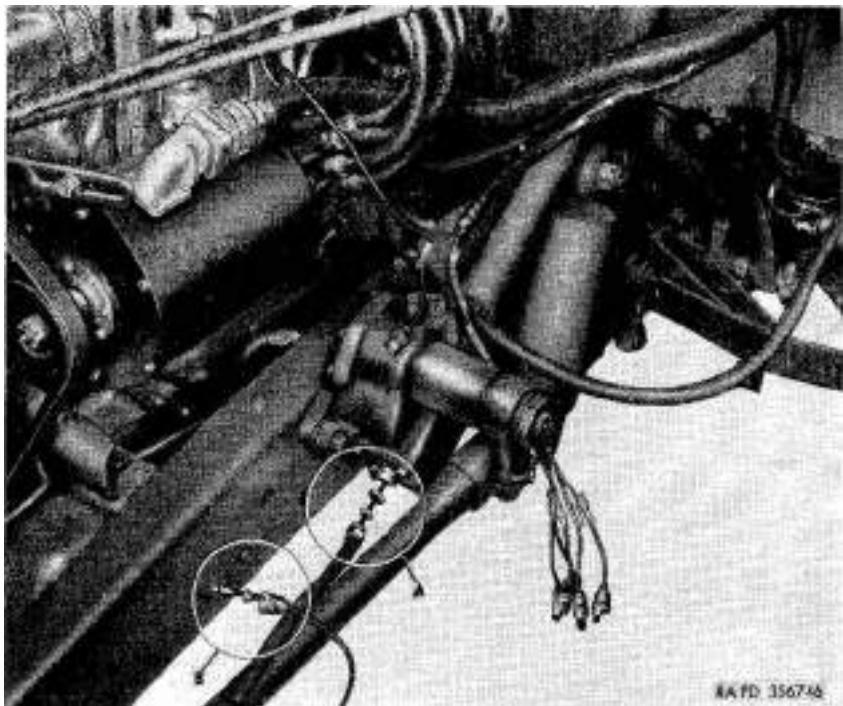

Figure 13. Horn button cable disconnect points.
a. Horn Button and Cable Assembly (*fig. 13*).
- (1) Withdraw horn button cable from frame. Slide metal bushing from grommet and pull grommet, metal bushing, and connector shell from end of cable (B). Unscrew tube nut (A) from bottom of steering gear and pull horn button cable hose assembly with tube, horn button cable seal plain washer, and horn button cable seal from horn button cable. It may be necessary to pry the rubber seal from the recess in steering gear housing lower seal plate.
- (2) Remove rubber horn button seal from steering wheel. Depress horn button and turn clockwise to disengage it from the horn button lower retaining plate. Pull horn button and cable from steering wheel. Remove horn button retainer plate spring, steering wheel nut, and lower retaining plate.